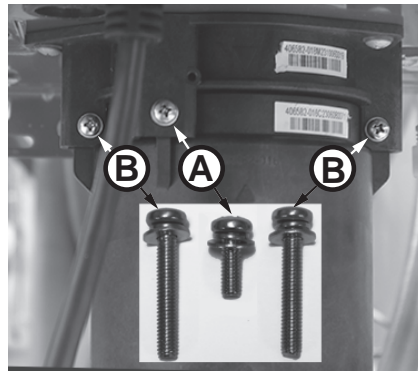

Figure 203 - Identify cartridge screws
- 6** Locate the three (3) screws securing the X3®/Bypass cartridge as shown in Figure 203. Remove the **(A)** M4-12mm screw and the two **(B)** M4-25mm screws from cartridge. Place screws aside in a safe place for reinstallation.